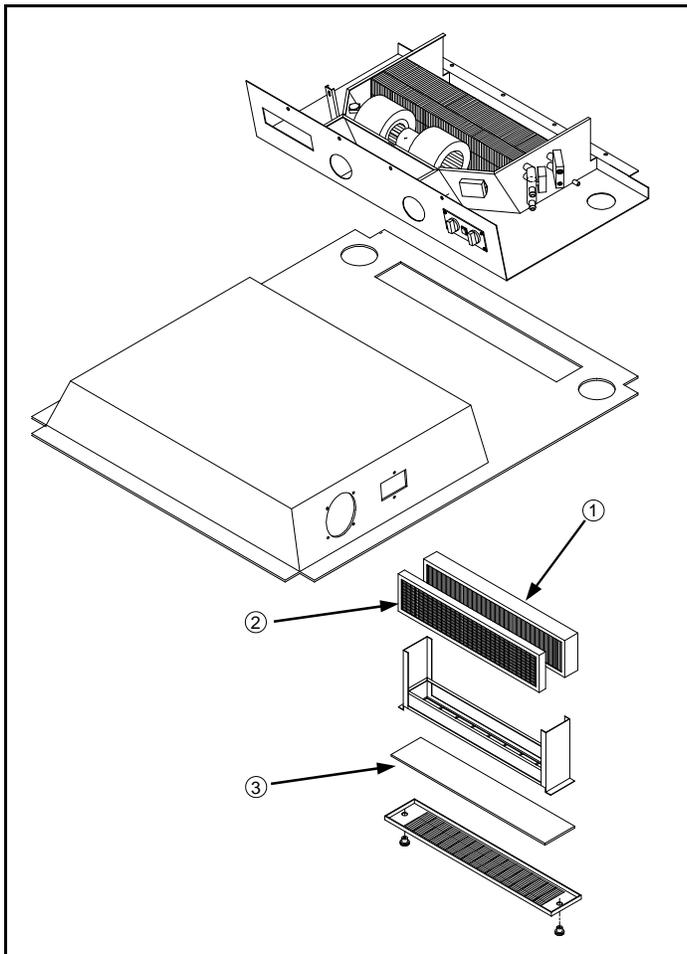

FIG 7.23
**PAPER FILTER** - (fig. 7.23, item 1) The paper filter should be cleaned once a year, or more often if necessary. Remove the paper element and gently tap it against a flat surface. Direct low
**CHARCOAL FILTER** - (fig. 7.23, item 2) Remove and replace at the first sign of chemical odor entering the cab.
**RECIRCULATING FILTER** - (fig. 7.23, item 3) The recirculating filter may be cleaned with soap and water. Replace, if it becomes worn.